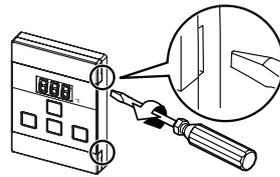

Fig. 2
4. Carefully remove the cover plates from the water controller, using a screw driver (Fig. 2).